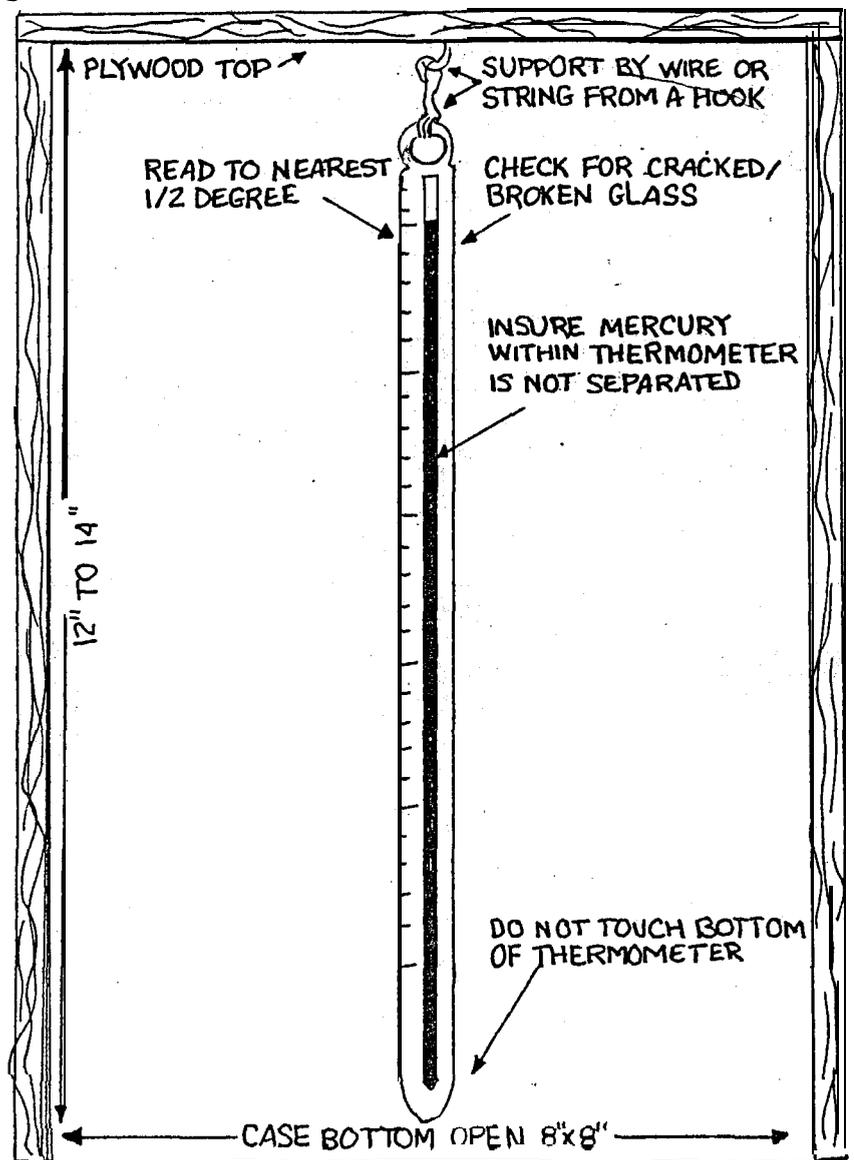

Figure 2. --Shade Dry Bulb Thermometer.
c. See figure 2 of this enclosure.